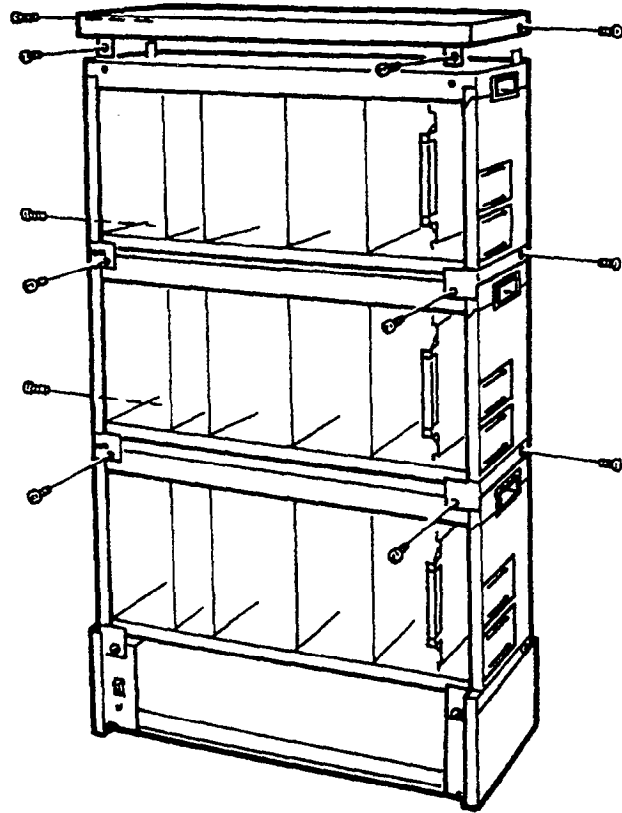

Figure 3-52 Attaching Each Level II Advanced Expansion KSU
3. Attach each KSU and top panel using the provided screws. Refer to Figure 3-52 - Attaching Each Level II Advanced Expansion KSU.